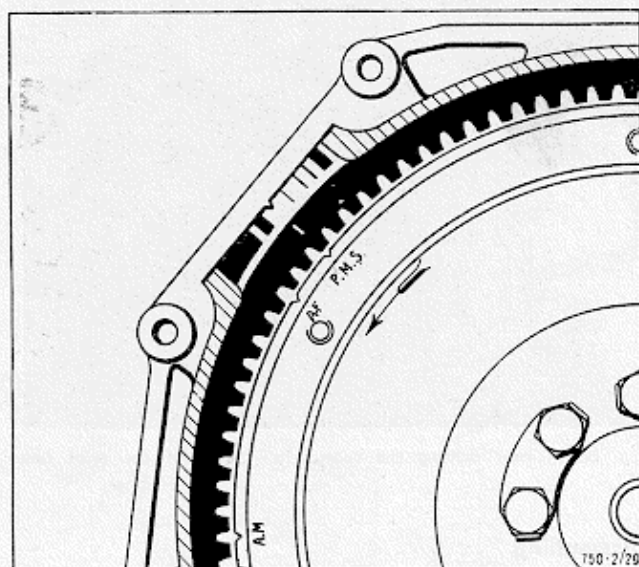
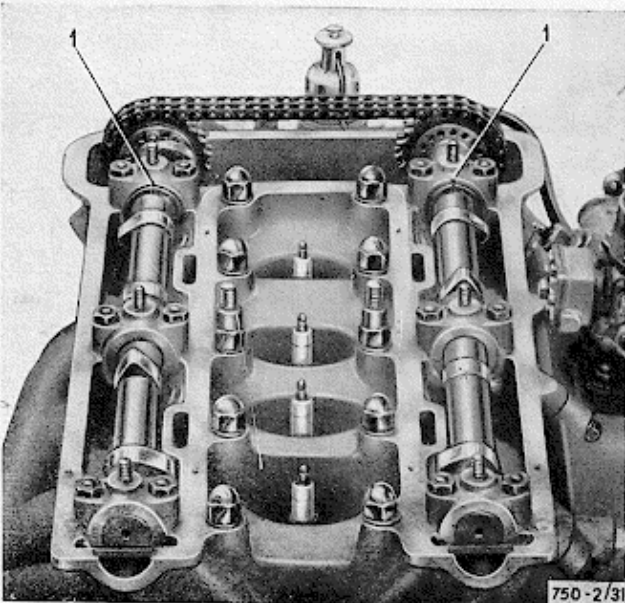

Fig. 29 - Timing marks stamped on the Flywheel:
Fig. 31 - Timing marks (1) cut in the camshafts
- a) piston No. 1 is at T.D.C. at ignition stroke (fig. 29);
- in fig. 31, fit the chain while carefully tensioning the two ends not subjected to the action of the tensioning device; then re-join the joint link;
Valve timing is correct when, with the No. 1 cylinder piston at T.D.C. on the ignition stroke, the reference line on the flywheel (marked P.M.S. = T.D.C.) is in line with the mark through the centre of the inspection hole (fig. 29) and the reference mark 1 (fig. 31) on the cam-shafts are in line with those on the front camshaft bearings. If due to cable stretch or any other cause, the marks on the camshaft (piston No. 1 being at T.D.C.) have moved out of alignment by an angle greater than 2° (or 1 mm), the following instructions should be followed: